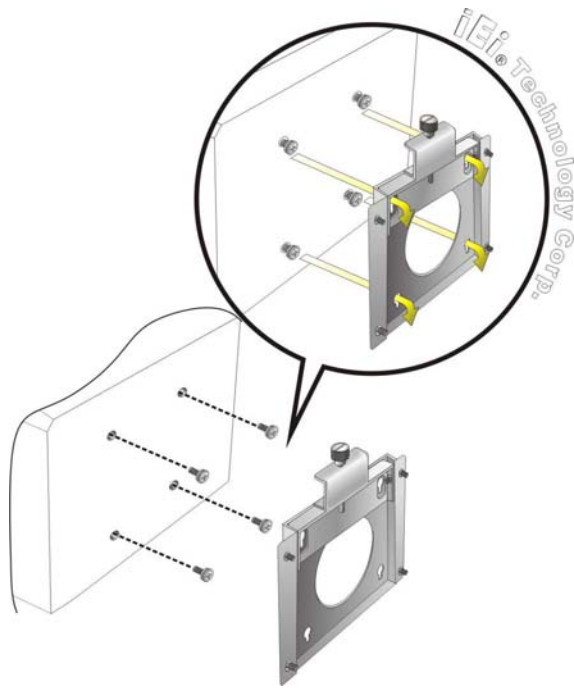

Figure 2-24: Chassis Support Screws
Step 6: Insert the four monitor mounting screws provided in the wall mounting kit into the four screw holes on the rear panel of the flat panel PC and tighten until the screw shank is secured against the rear panel (Figure 2-24).
Step 8: Carefully insert the screws through the holes and gently pull the monitor downwards until the monitor rests securely in the slotted holes (Figure 2-24). Ensure that all four of the mounting screws fit snugly into their respective slotted holes.